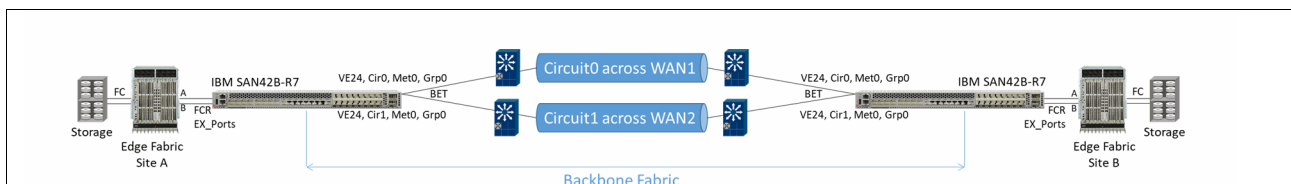

Figure 8-6 Edge-backbone: edge extension with FCR
- ▶ Figure 8-6 shows an edge-backbone-edge architecture with FCR in which edge fabrics bookend a transit backbone fabric. The backbone fabric has EX\_Ports that are outward-facing to the edge fabrics. Extension is within the backbone fabric by using VEs to communicate across the WAN.